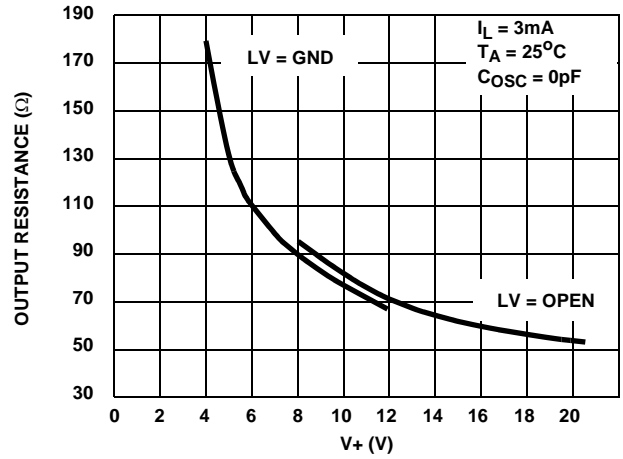

FIGURE 2. OUTPUT SOURCE RESISTANCE AS A FUNCTION OF SUPPLY VOLTAGE
The output characteristics of the circuit in Figure 16A can be approximated by an ideal voltage source in series with a resistance as shown in Figure 16B. The voltage source has a value of -(V+). The output impedance (RO) is a function of the ON resistance of the internal MOSFET switches (shown in Figure 2), the switching frequency, the value of C1 and C2, and the ESR (equivalent series resistance) of C1 and C2. A good first order approximation for RO is: